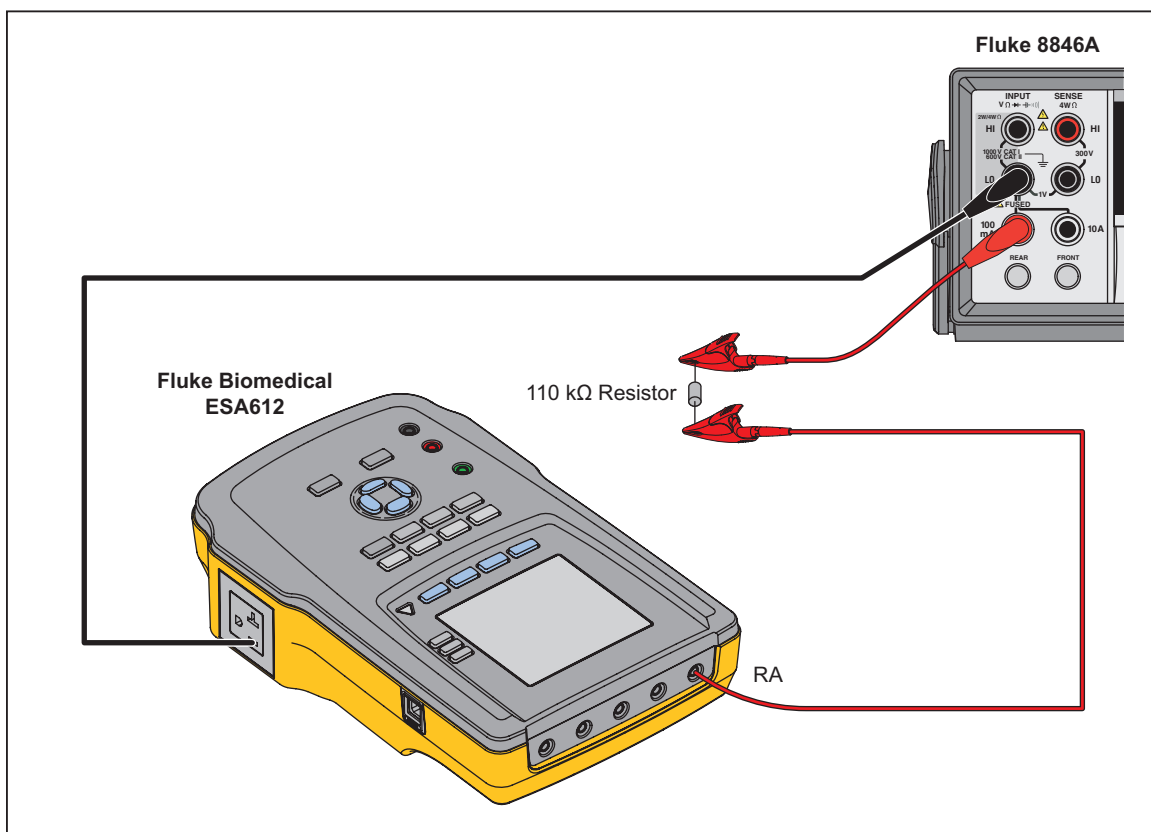

Figure 3-21. Alternative Applied Part Leakage: RA to Hot
1. Move the lead from the Red jack to the RA applied part, the other end should still be connected to the Input (-) of the DMM. The EO hot should still be connected to the 110-k $\Omega$  resistor. See Figure 3-21.